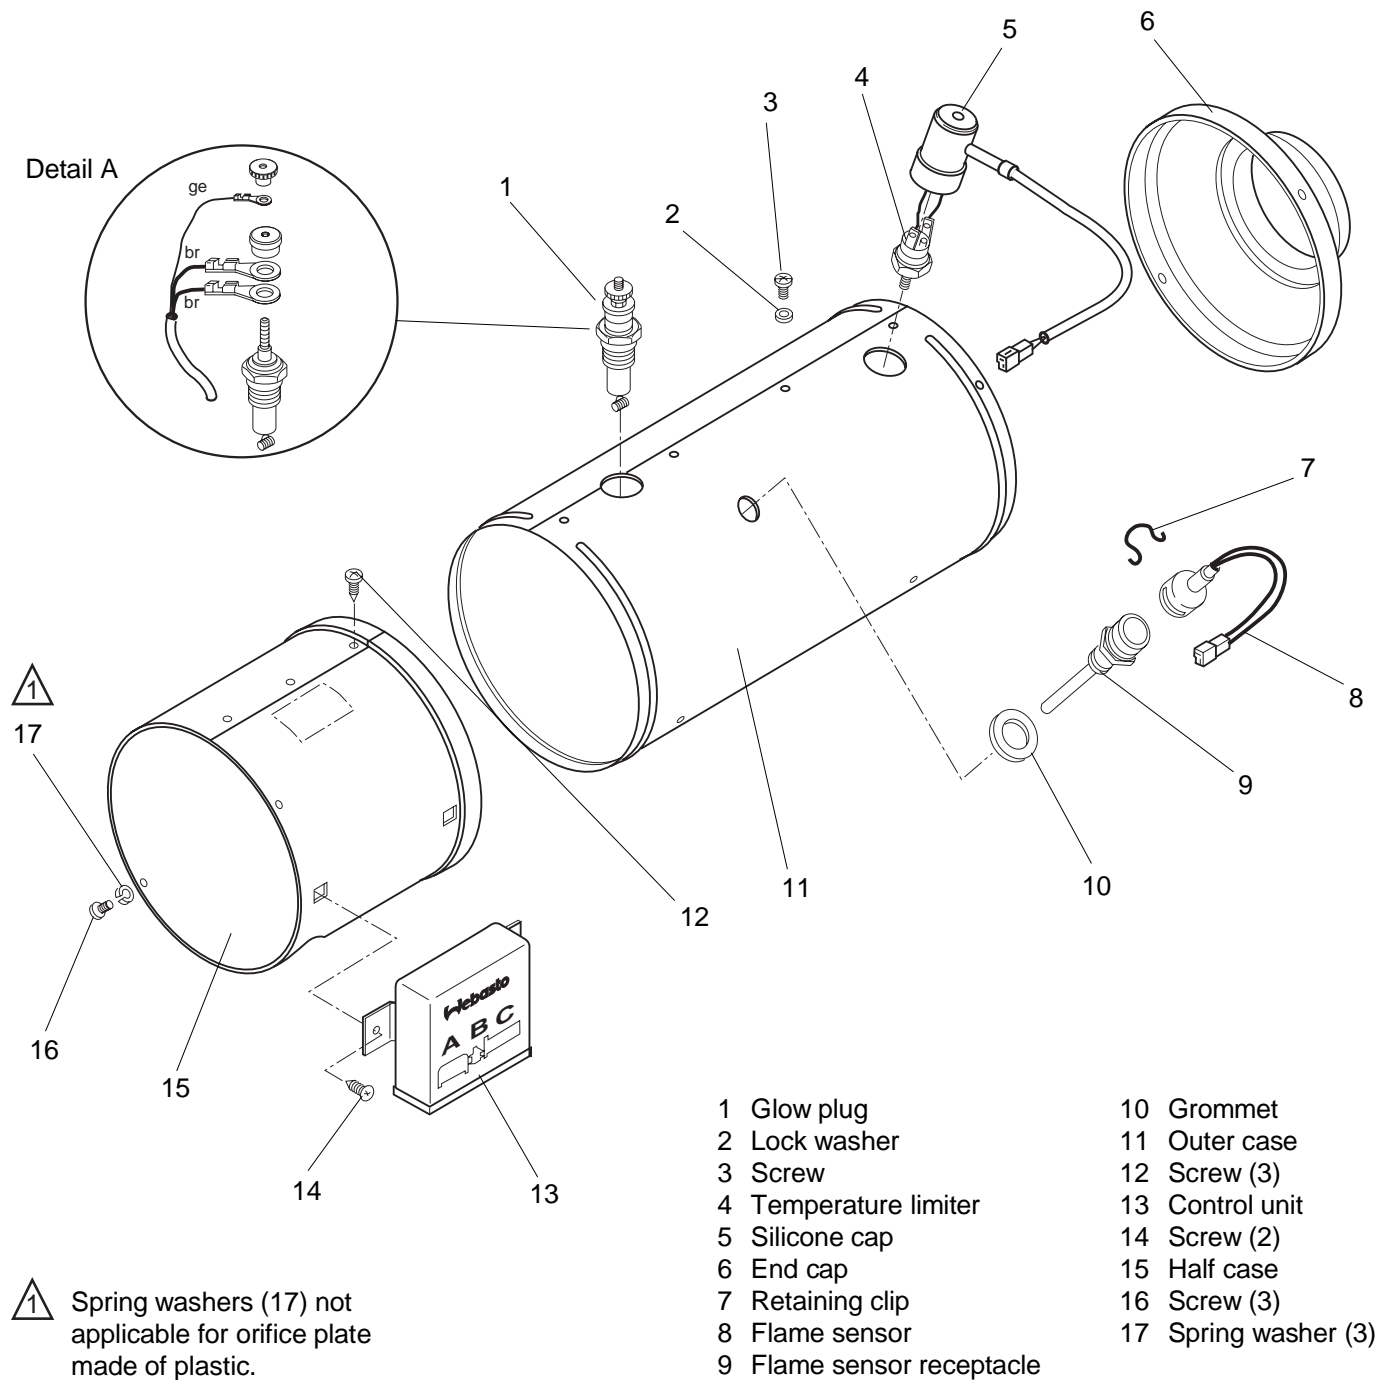

Fig. 901 Replacement of Control Unit, Glow Plug, Flame Sensor and Temperature Limiter
2. Remove screws (14, Fig. 901) and control unit (13).
1. Locate control unit (13, Fig. 901) in installation position and secure with screws (14).
3. Unscrew glow plug (1, Fig. 901) and remove.
2. Manually screw glow plug (1, Fig. 901) in and tighten with 20 Nm.
3. Bring cable and isolator in assembly position as shown in Fig. 901, Detail A and secure with knurled nut.
2. Remove spring (7, Fig. 901) from flame sensor (8) and withdraw flame sensor.
3. Unscrew flame sensor receptacle (9) and remove.
4. Remove grommet (10) and discard.
1. Locate new grommet (10, Fig. 901) flush in installation position.
4. Plug on flame sensor (8) and secure with retaining clip (7).
2. Slide silicone cap (5, Fig. 901) up enough to make hexagon of temperature limiter (4) accessible.
1. Screw temperature sensor (4, Fig. 901) in by hand and tighten with 0.8 Nm.
2. Form-fit silicone cap (5).
3. Remove screws (12 and 16, Fig. 901) and spring washers (17). Slightly widen half case and slide off over air intake pipe.
4. Slightly widen half case (15, Fig. 901), route electrical connector (9 and 25, Fig. 902) with cable to exterior and push grommet (8) into opening for proper fit in place.
5. Position half case (15, Fig. 901) for assembly and secure with screws (12).
6. Secure half case (15) with screws (16) and spring washers (17).